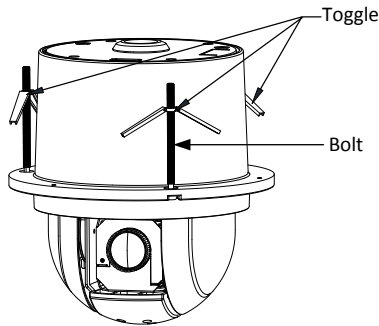

Figure 2-5 Install the Toggle Bolts
- 4) Install the toggles back as shown in Figure 2-5.